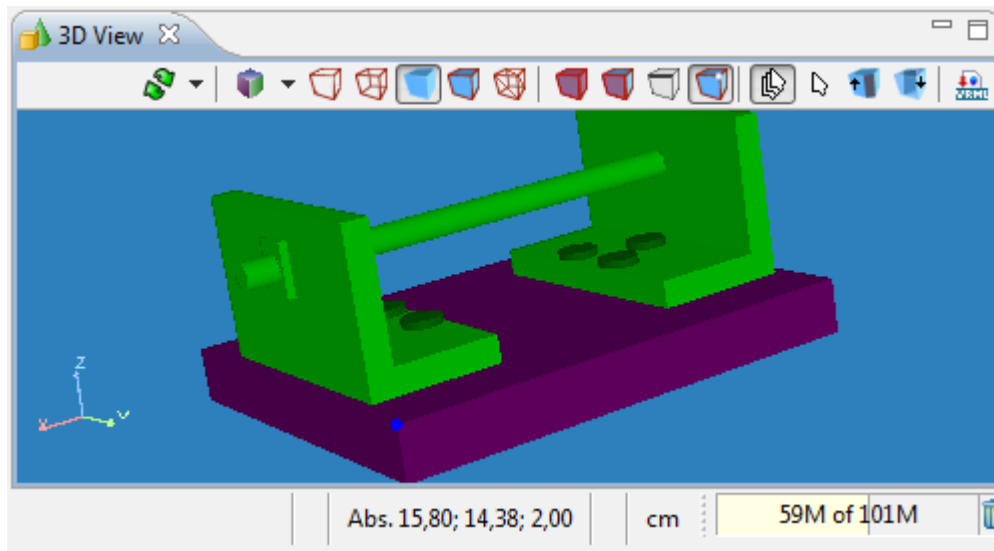

Figure 4. Status bar information: Absolute coordinates of blue point ('Abs. 15,80; 14,38; 2,00') and measurement units (cm)
- Point coordinates - absolute and relative, distance on the 3D object (see Figure 4). Refer to the Clause Measuring for more details.